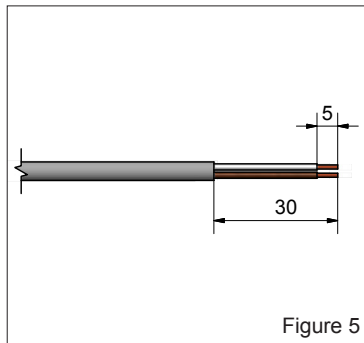

Figure 5
6. Carefully strip approximately 30 mm of the outer sheath at the end of the power supply cable. Then strip approximately 5 mm of the inner insulation on both wires, see Figure 5.
11. *Siren cable:* Measure the length of the cable between the siren and the alarm unit. Cut. Carefully strip approximately 30 mm of the outer sheath at both ends of the siren cable. Strip approximately 5 mm of the inner insulation on both wires, see Figure 5.